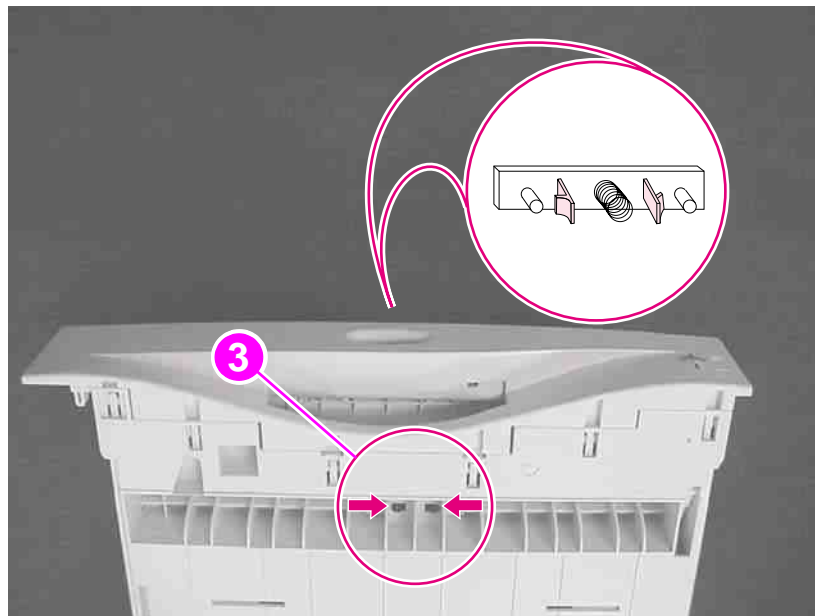

Figure 74. Tray 2 separation pad removal (2 of 2)
- 2 While pressing down the paper lift plate (callout 2), reach under the front of the tray and squeeze the black tabs (callout 3 in figure 74) to release the separation pad from the tray.